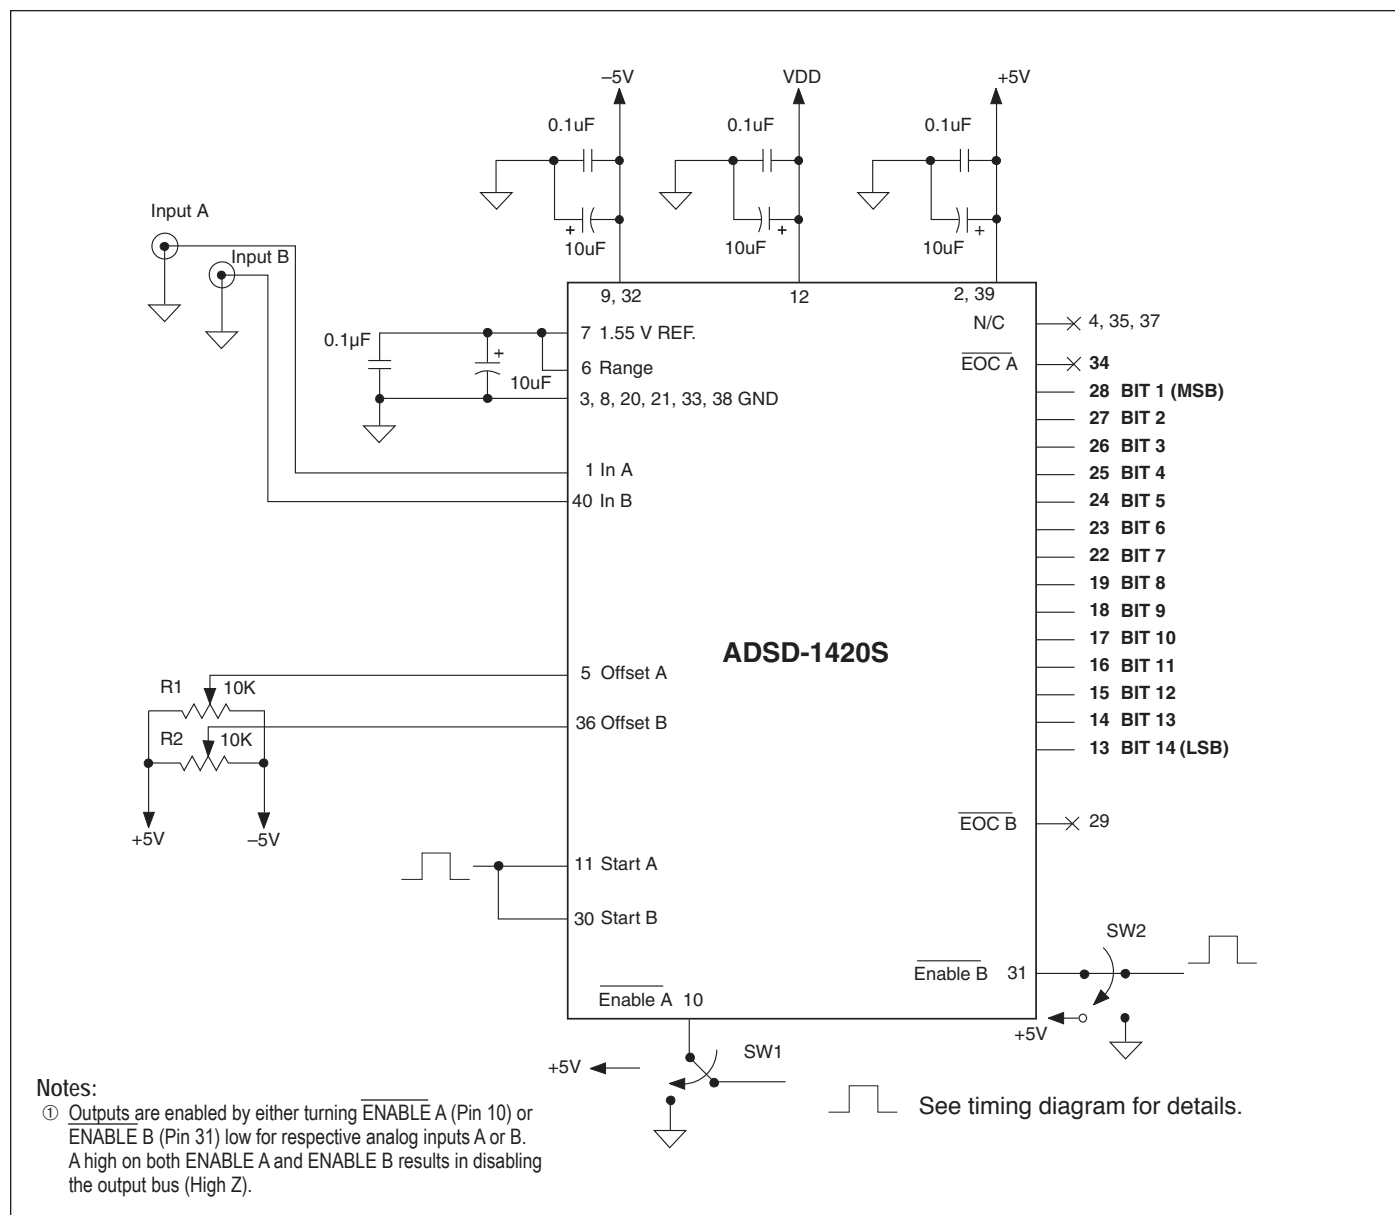

Figure 3. ADSD-1420S Connection Diagram
1. Connect the converter per Figure 3. Apply a pulse of 50 nanoseconds typical to START CONVERT (pin 11) at a rate of 2MHz. This rate is chosen to reduce flicker if LED's are used on the outputs for calibration purposes.